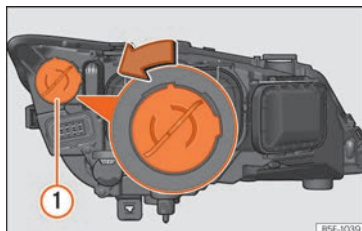

Fig. 56 Day light bulb.
- Turn the bulb holder » **Fig. 56** ① anti-clockwise and pull.